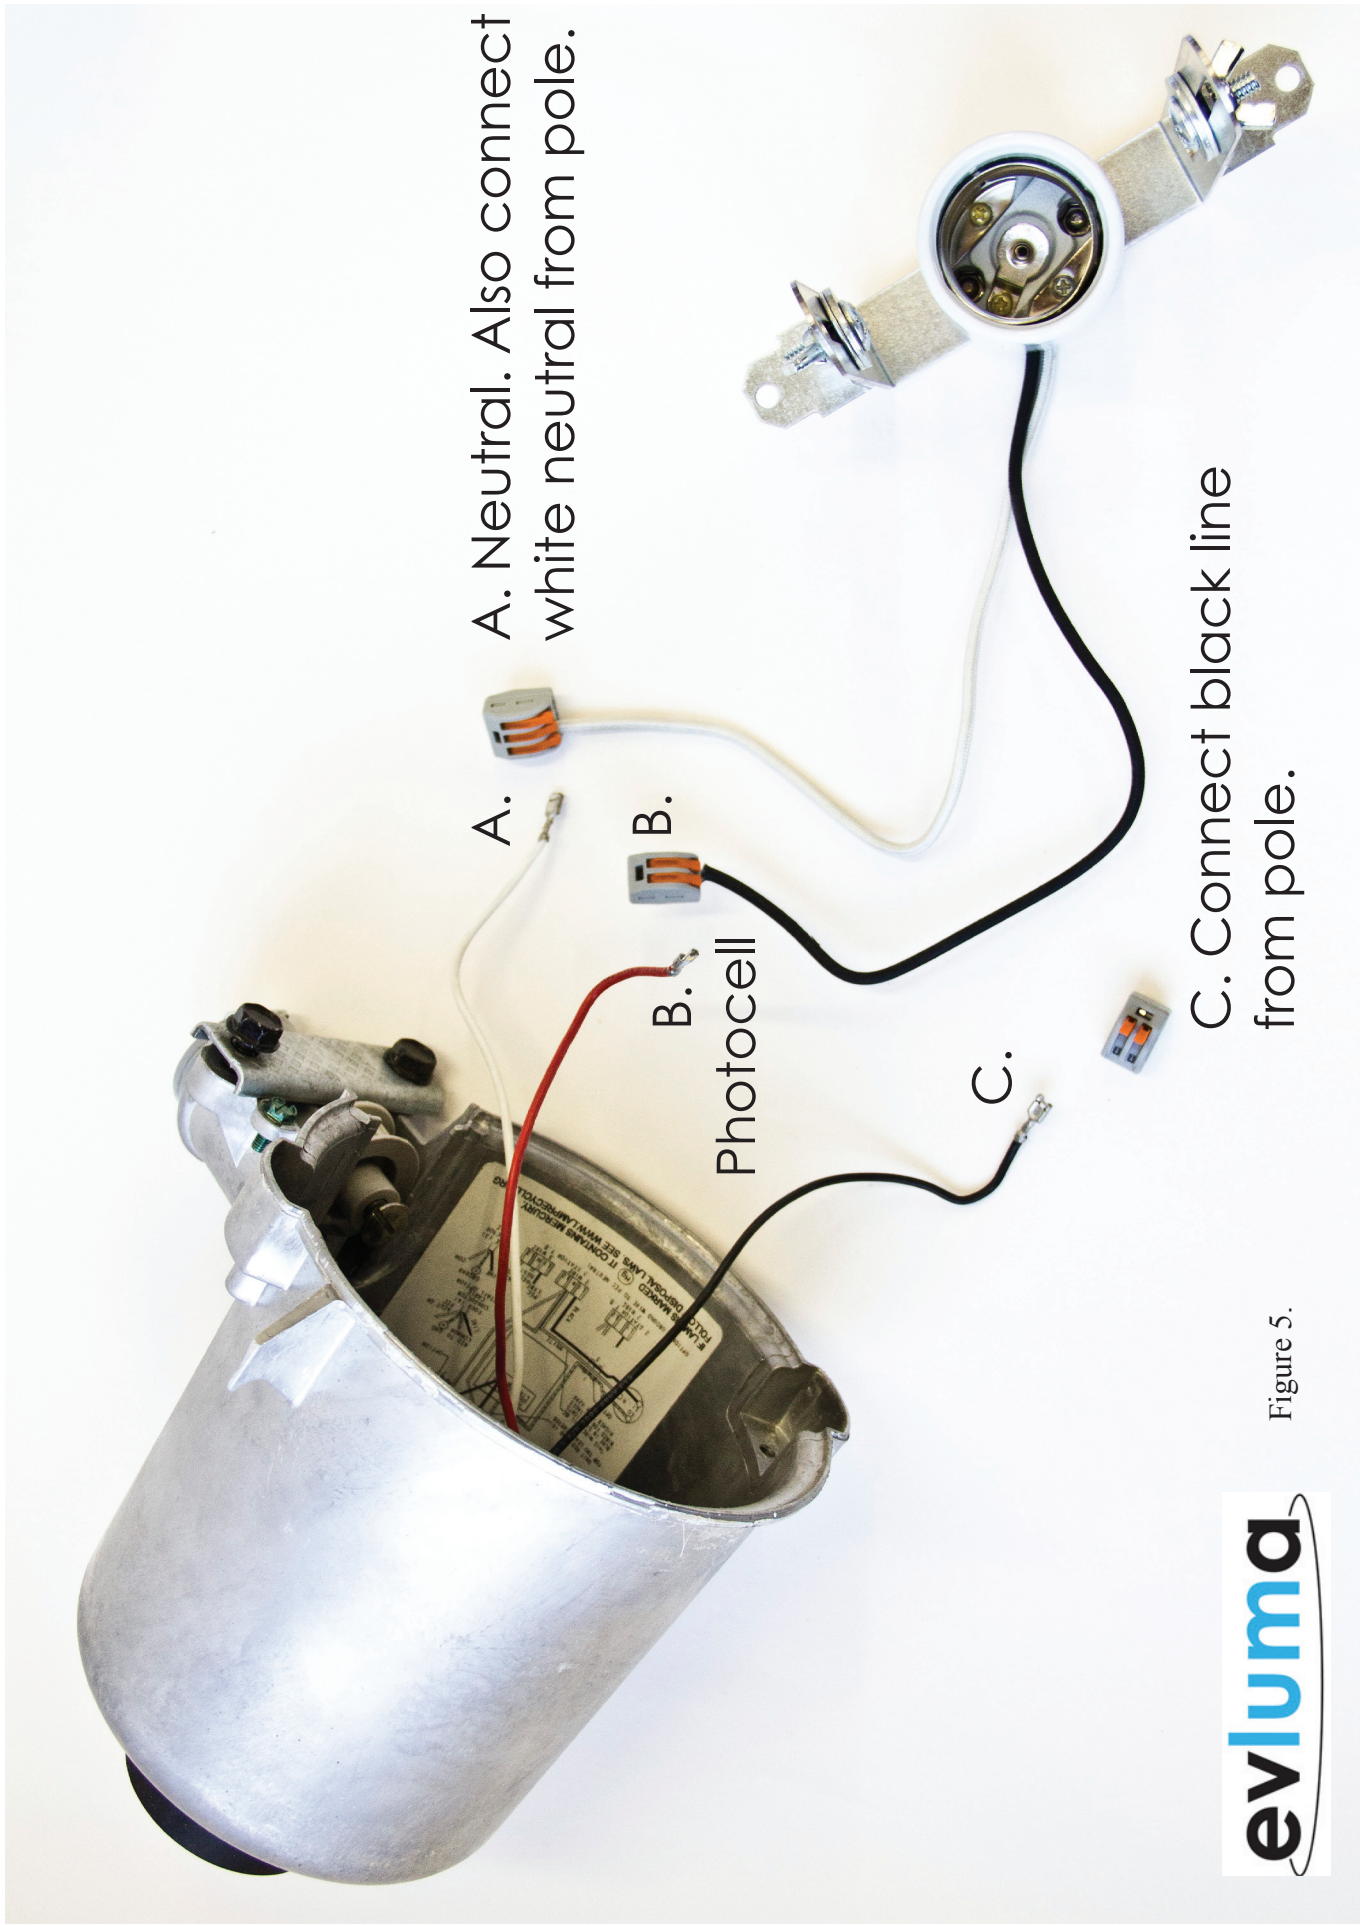

Figure 5.
5. Insert all three neutral wires into the three conductor Wago connector: A. and A. in Figure 5 plus the incoming neutral line from the pole. Lift the orange lever to open the cage clamp and insert the conductor. The lever clicks as it is lowered, actuating the cage clamp.
6. Insert the red photocell wire and black wire from the socket into a two conductor Wago connector. B. and B. in Figure 5.
7. Insert the black wire from the fixture and the incoming black wire from the pole into a two conductor Wago connector. C. and C. in Figure 5.